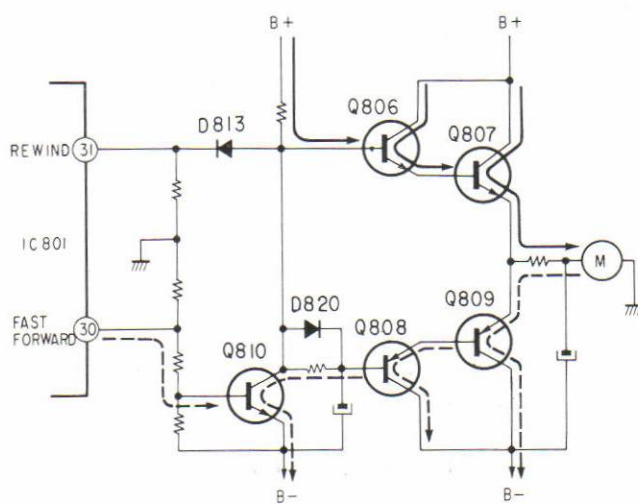

Fig. 9
3. Reel Motor Drive (See Fig. 9)